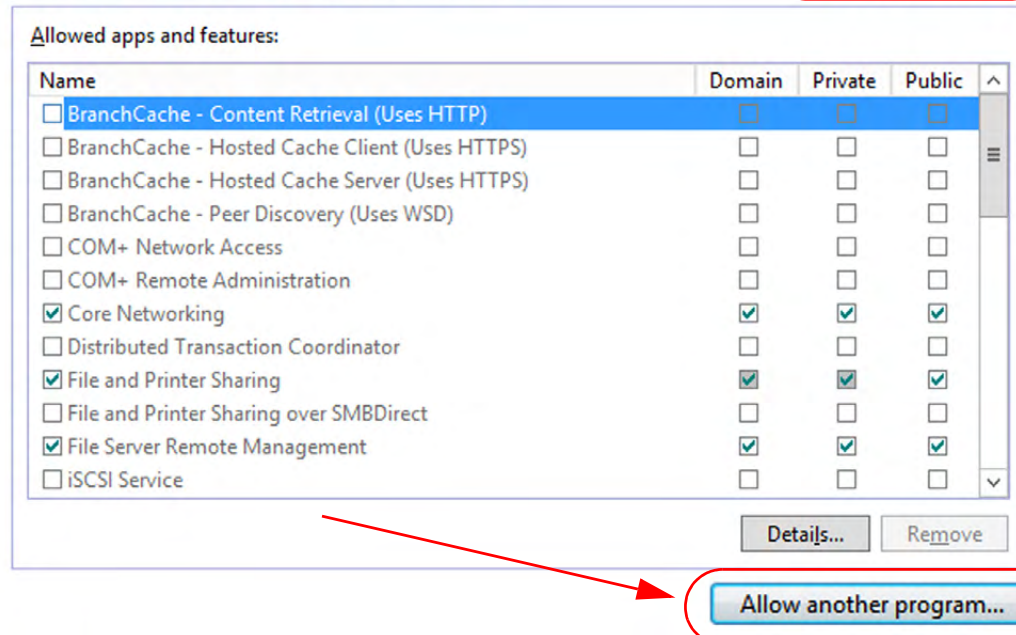

Figure 3.13: Windows Server 2008: Allowed Apps: Change settings -> Allow another program
4. From the Windows Firewall screen -> Allow apps to communicate through Windows Firewall”, select Change settings, then select “Allow another program”. See Figure 3.13.